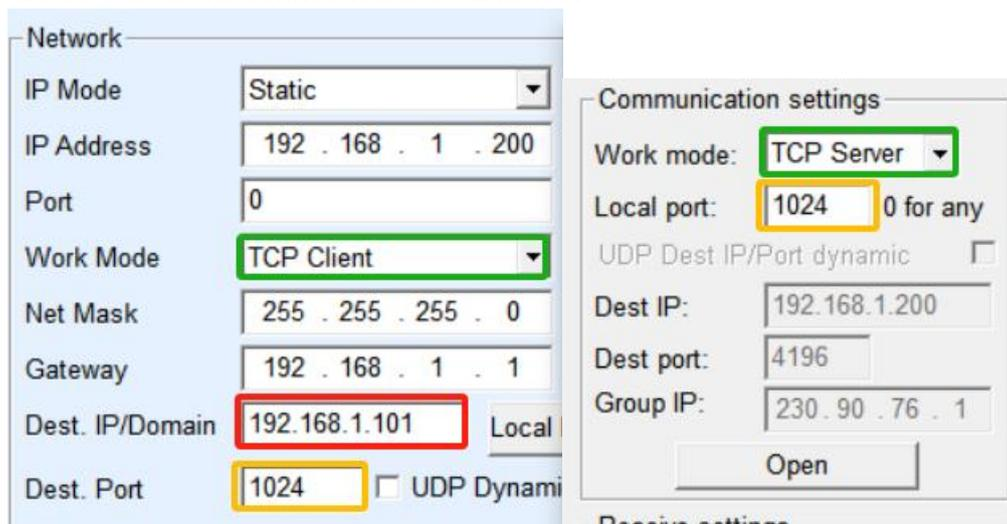

Figure 20 Serial server as client
When the serial server is the client, there must be three relationships, as shown in Figure 20. (1) Working mode: The working mode of the serial port server is the server mode of the network tool corresponding to the client. (2)IP address: The destination IP address of the serial port server must be the IP address of the computer where the network tool is located. (3) Port: The destination port of the serial port server must be the local port of the network tool. After this setting, the serial port server can automatically connect to the network tool and send and receive data after the connection is established.
Click on Vircom's device management to find these two devices, as shown in Figure 26. Then click "Device Edit" to configure the device. Device pairs can be classified into TCP pairs and UDP pairs. In TCP interconnection mode, the parameters of the two devices are shown in Figure 20. The parameters shown by the arrows must correspond to each other, just as they correspond to the PC connection. After the TCP connection is successful, you can return to the Device Management dialog box to check the connection status, as shown in Figure 26. If the status of both devices is Connected, the TCP link between the two devices has been established.